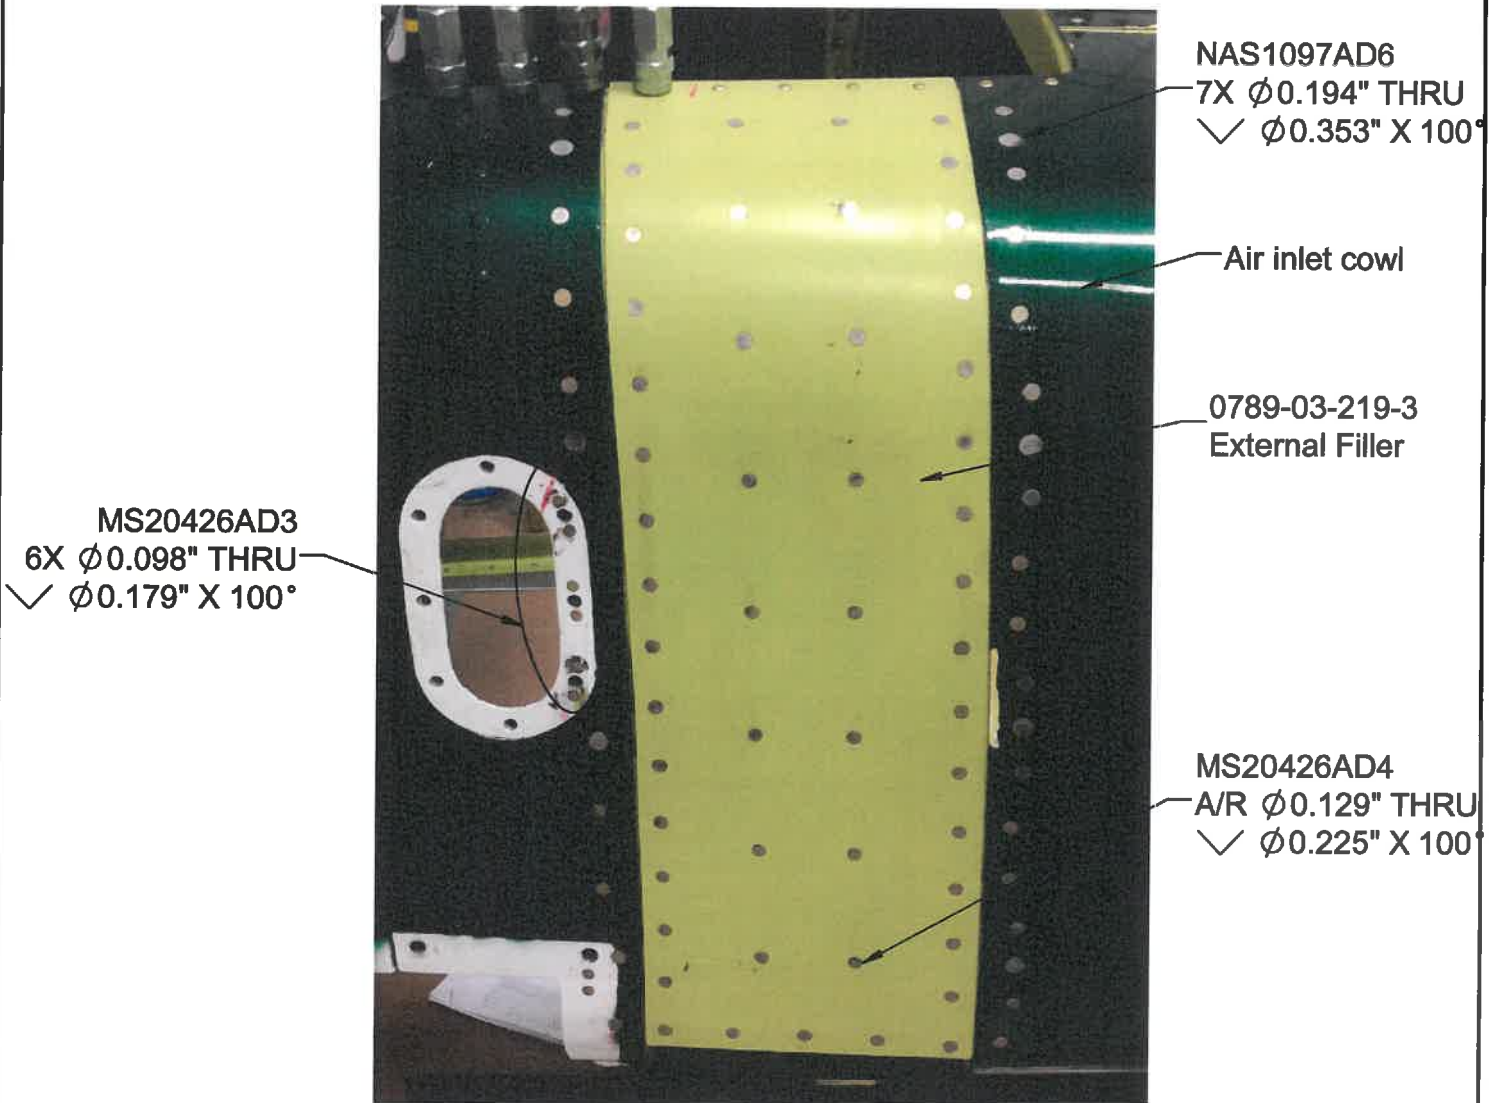
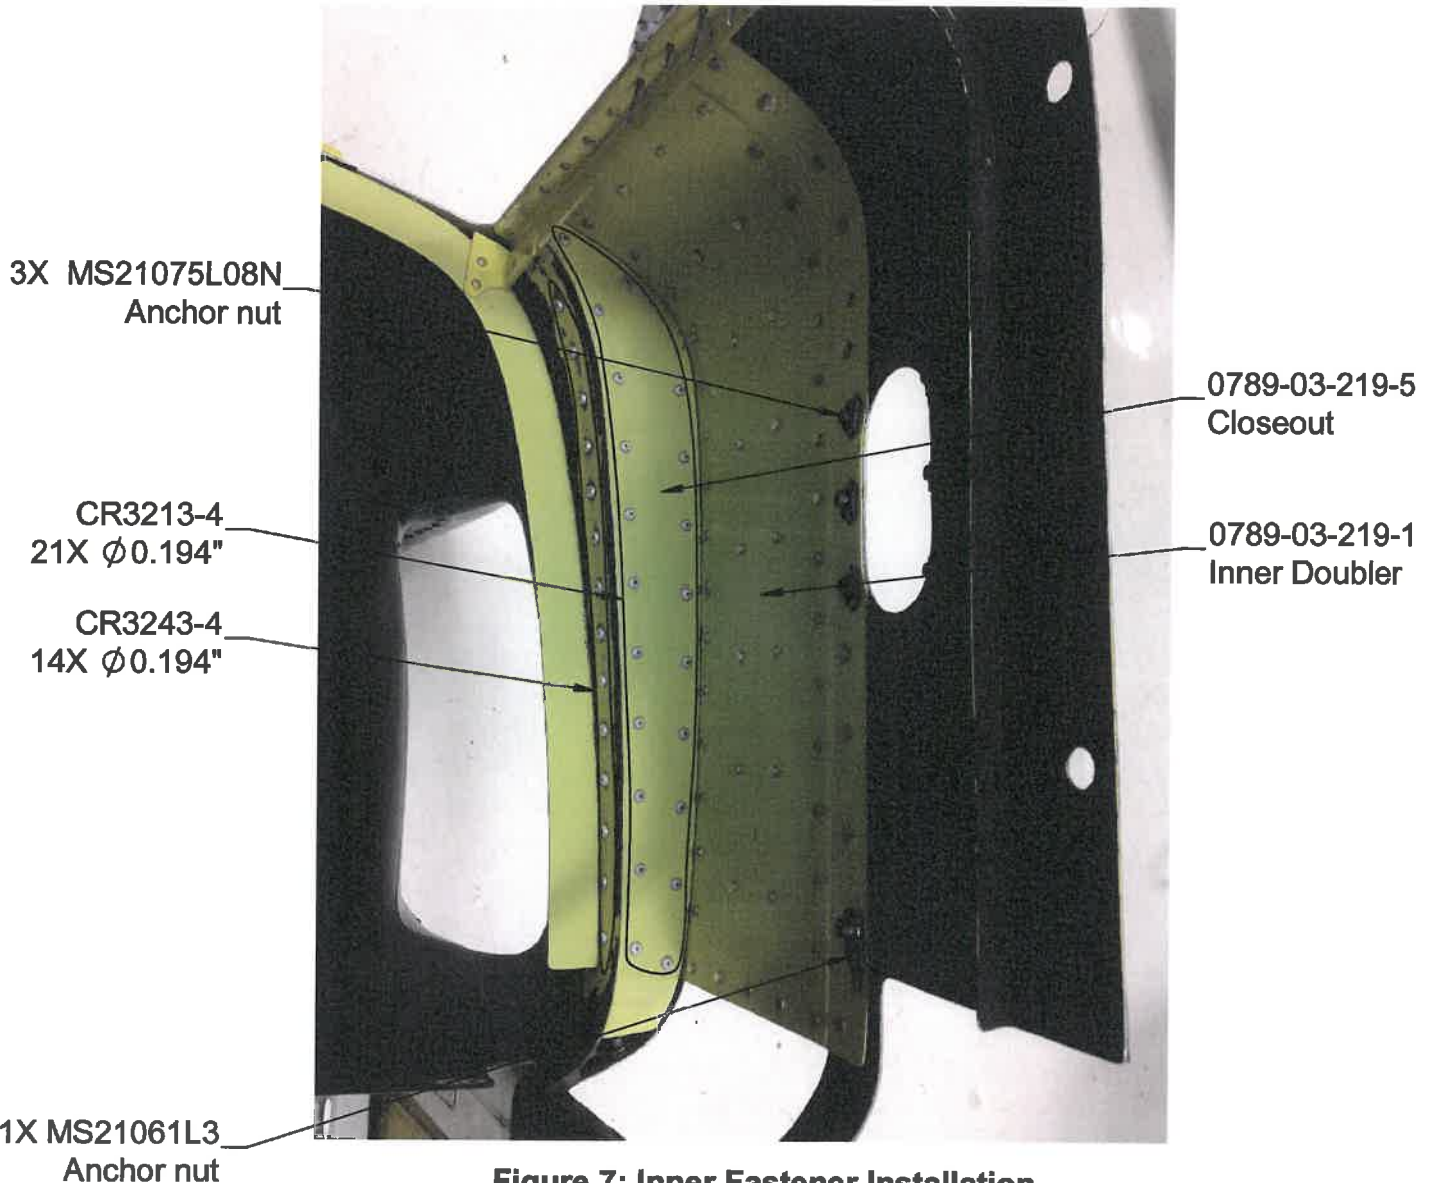

Figure 6: Outer Fastener Installation
Figure 7: Inner Fastener Installation
17. Countersink holes in 0789-03-219-3 External Filler and aircraft skin per the locations and dimensions shown in Figure 6.
21. Install rivets and anchor nuts per AC43.13 as shown in Figure 6 and Figure 7.